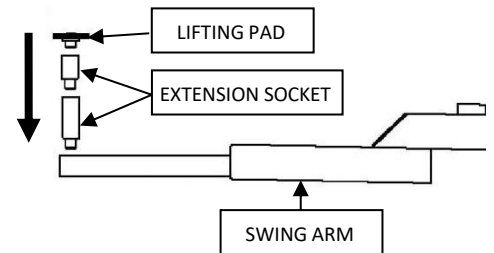

FIGURE 17 : INSERTION DE RALLONGES
- 9.2 ADJUST THE HEIGHT OF THE LIFTING PADS BY ADDING OR REMOVING EXTENSION SOCKETS TO PUT THE VEHICLE UP AT LEVEL AND TO HAVE THE SHORTEST DISTANCE BETWEEN LIFTING PADS AND THE LIFTING POINTS RECOMMENDED BY THE VEHICLE'S MANUFACTURER. SEE **FIGURE 17**.
4. INSTALL THE LIFTING PADS AND EXTENSION SOCKETS IN THE HOLES AT THE END OF THE SWING ARMS. SEE **FIGURE 17**.
- 8.2 ADJUST THE LIFTING PADS HEIGHT BY ADDING OR REMOVING EXTENSION SOCKETS TO PUT THE VEHICLE UP TO THE LEVEL AND TO HAVE THE SHORTEST DISTANCE BETWEEN LIFTING PADS AND THE LIFTING POINTS RECOMMENDED BY THE VEHICLE'S MANUFACTURER. SEE **FIGURE 17**.